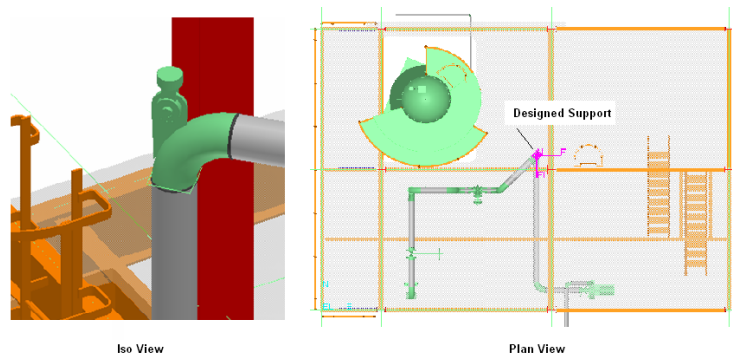

Figure 22: Final Position of Elbow Lug
**Exercise Objective:** In this exercise you will be placing a lug on an elbow that is rotated relative to the unit's auxiliary coordinate system. The example is chosen to illustrate the manipulation of the part's position using the **Move** and **Rotate** commands and the key points of the part. The end result of the designed support and single part placement is shown in Figure 22.